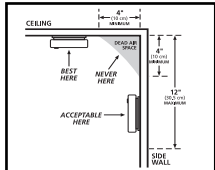

FIGURE 1
- When mounting an alarm on the ceiling, locate it at a minimum of 4" (10 cm) from the side wall (see figure 1).
- When mounting the alarm on the wall, use an inside wall with the top edge of the alarm at a minimum of 4" (10 cm) and a maximum of 12" (30.5 cm) below the ceiling (see figure 1).
- In homes that are not well insulated, extreme heat or cold can be transferred from the outside to the inside through poorly insulated walls and roof. This may create a thermal barrier which can prevent the smoke from reaching an alarm mounted on the ceiling. If you are not sure about the insulation in your home, or if you notice that the outer walls and ceiling are either hot or cold, install the alarm on an inside wall. In such homes, install the smoke alarm with the top edge of the alarm at a minimum of 4" (10 cm) and a maximum of 12" (30.5 cm) below the ceiling (see figure 1).
Modern mobile homes have been designed and built to be energy efficient. Install smoke alarms as recommended above (refer to RECOMMENDED LOCATIONS and Figures 1 and 2). In older mobile homes that are not well insulated compared to present standards, extreme heat or cold can be transferred from the outside to the inside through poorly insulated walls and roof. This may create a thermal barrier which can prevent the smoke from reaching an alarm mounted on the ceiling. In such units, install the smoke alarm on an inside wall with the top edge of the alarm at a minimum of 4" (10cm) and a maximum of 12" (30.5cm) below the ceiling (see figure 1).